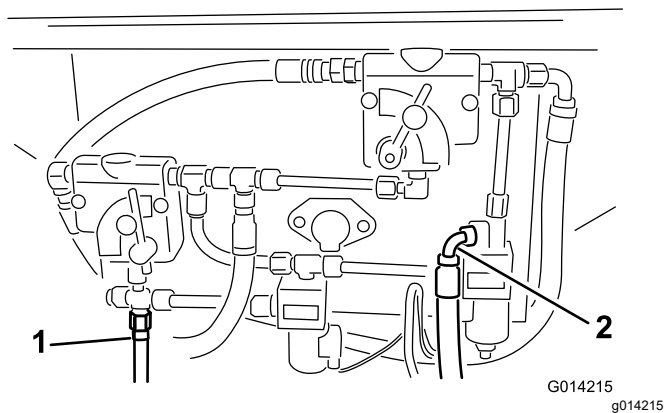

Figure 14
11. Identify the pressure and return connections on the machine base model. Refer to Figure 14 for the SH versions and Figure 15 for the EH versions.
12. If the pressure and return hoses were previously installed at the locations shown in Figure 14 and Figure 15, remove them.
13. Connect the hydraulic hoses to the hydraulic control panel. Refer to Figure 14 and Figure 16 on the SH versions and Figure 15 and Figure 17 on the EH versions.